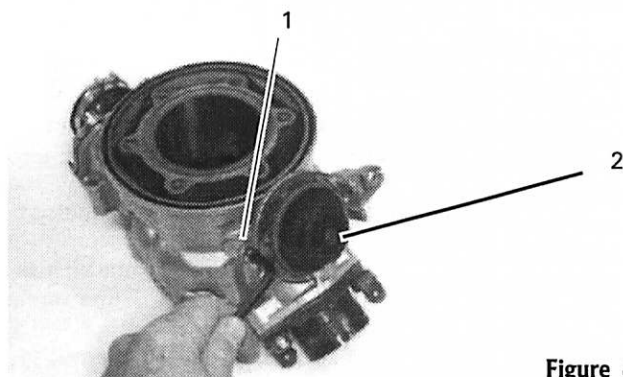
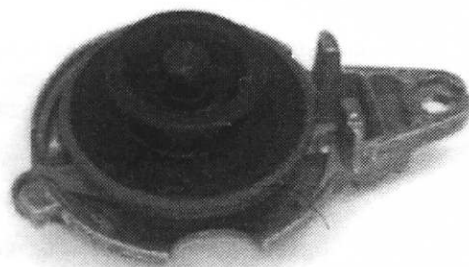

Figure 69
Figure 70
2. Remove the 2 Allen screws (1, Figure 69) securing the valve rod housing to the cylinder.
3. Unscrew the exhaust valve piston (2, Figure 69), then remove the piston and the valve rod housing from the cylinder (Figure 70).